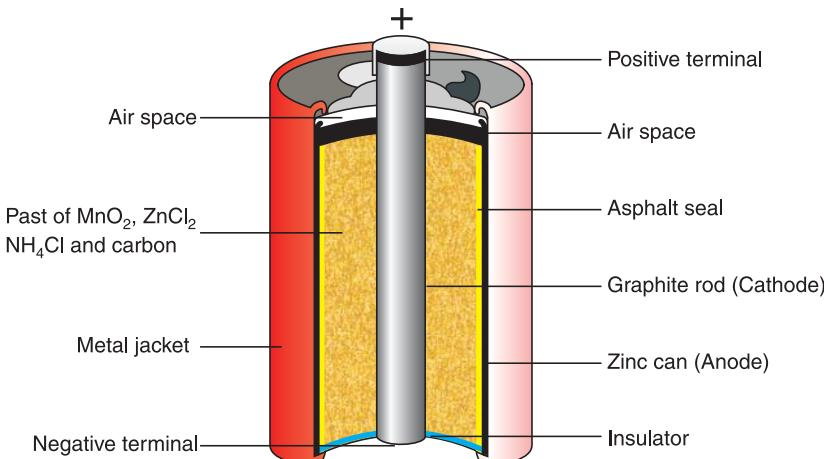

Figure 3.8 Zinc-carbon dry cell (Leclanche cell).
A zinc-carbon dry cell, which is also called a **Leclanche cell** (Figure 3.8) is used in devices like portable radios and flashlights. The cell consists of a zinc cup that serves as the anode. The zinc cup is filled with a paste of manganese (IV) oxide, zinc chloride, ammonium chloride and powdered carbon. A graphite rod, immersed in this paste, serves as the cathode.
The non-metals like H₂, Cl₂, F₂ etc are manufactured on an industrial scale by the process called electrolysis. The metal aluminium is extracted industrially by the **Hall Process**. This process involves the electrolysis of molten alumina (Al₂O₃) mixed with some amount of cryolite, Na₃AlF₆. The role of cryolite is to reduce the melting point of alumina from 2000°C to 1000°C. The vessel holding the molten mixture (Figure 3.8) is made up of iron lined with carbon, which serves as the cathode. Carbon (graphite) rods that serve as the anode are inserted into the melt. When the molten mixture is electrolyzed, pure aluminium is produced. The reactions at the electrodes are: